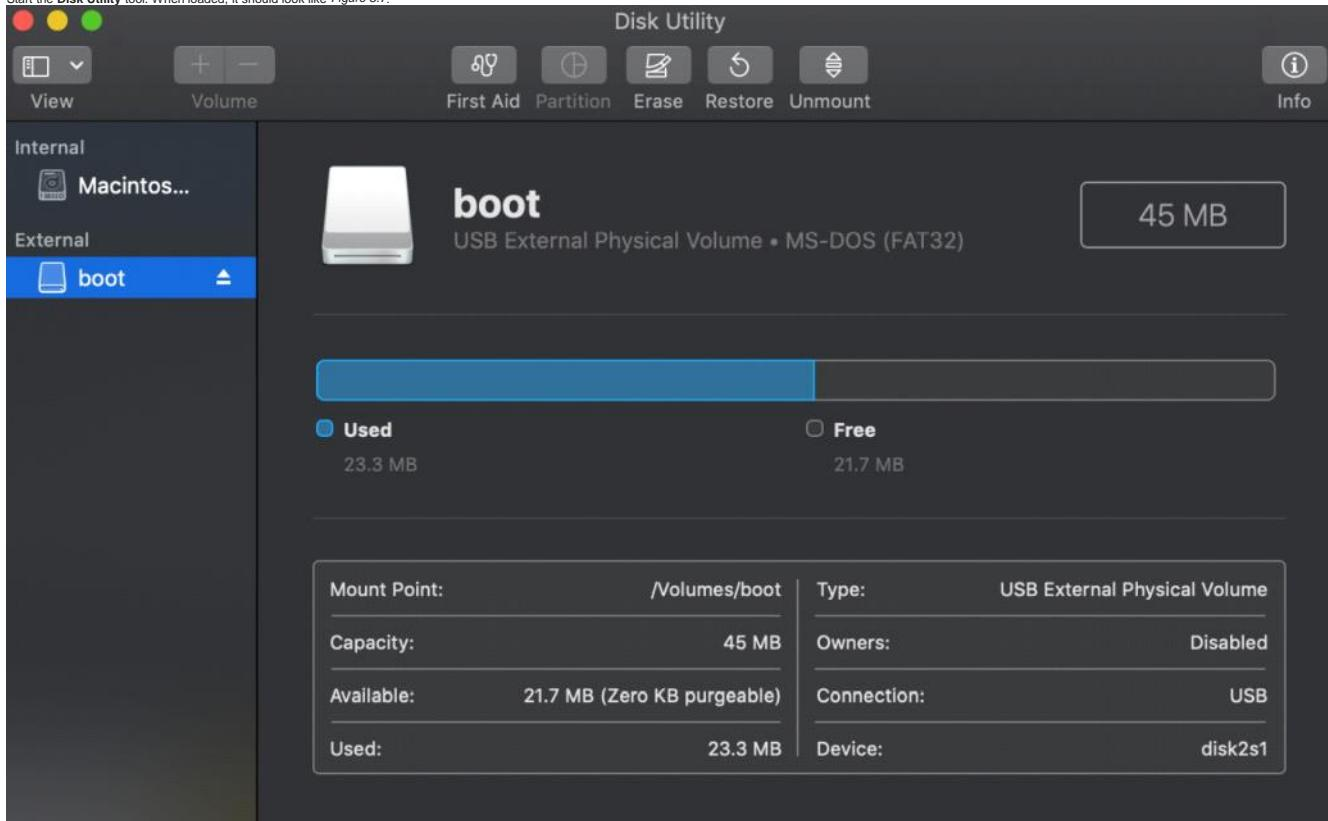

Figure 5.7 – The Disk Utility tool
1. Start the Disk Utility tool. When loaded, it should look like *Figure 5.7*: